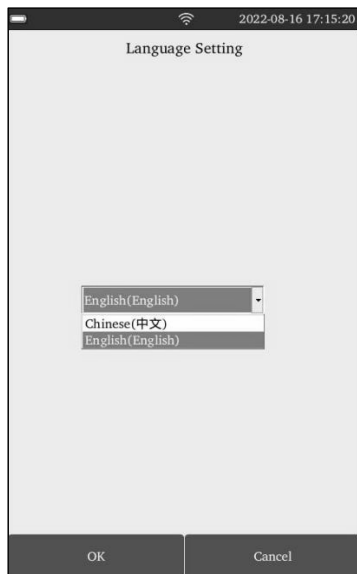

Fig 10
- 2) Tap "**Language**" to select the corresponding language, and tap "**OK**" to switch the system language. (Ref Fig 10)